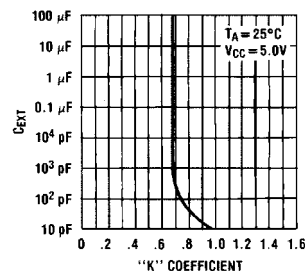

FIGURE 5.
6. The "K" coefficient is not a constant, but varies as a function of the timing capacitor C_X. Figure 5 details this characteristic.
7. Under any operating condition C_X and R_X must be kept as close to the one-shot device pins as possible to minimize stray capacitance, to reduce noise pick-up, and to reduce |X R and L di/dt voltage developed along their connecting paths. If the lead length from C_X to pins (10) and (11) is greater than 3 cm, for example, the output pulse width might be quite different from values predicted from the appropriate equations. A non-inductive and low capacitive path is necessary to ensure complete discharge of C_X in each cycle of its operation so that the output pulse width will be accurate.